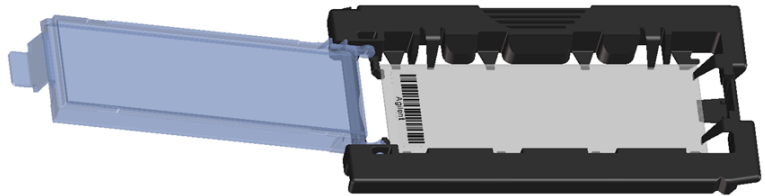

Figure 10 Slide inserted in slide holder
- d Gently lower the slide into the slide holder. See Figure 10.